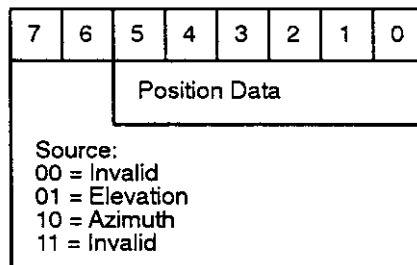

Figure 24. Elevation & Azimuth Position Word (Words 3 & 4 or 10 & 11).
- Word 3: Position (lower 6 bits) see Figure 24
- Word 4: Position (upper 6 bits) see Figure 24
- Word 10: Position (lower 6 bits) see Figure 24
- Word 11: Position (upper 6 bits) see Figure 24